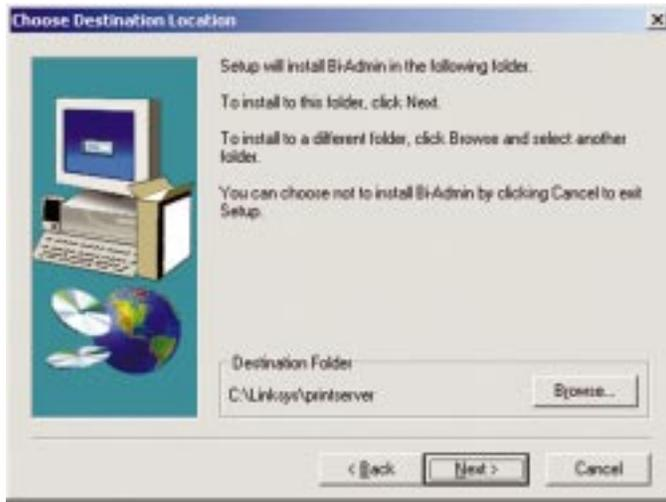

Figure 4-3
- The next screen that appears, shown in Figure 4-3, will request you to choose a destination folder. You can either use the default folder by clicking the **Next** button or choose an alternate folder by clicking the **Browse** button and selecting a folder from the window that pops up. Click the **Back** button to take a step backward in the installation, or **Cancel** to forgo installation.